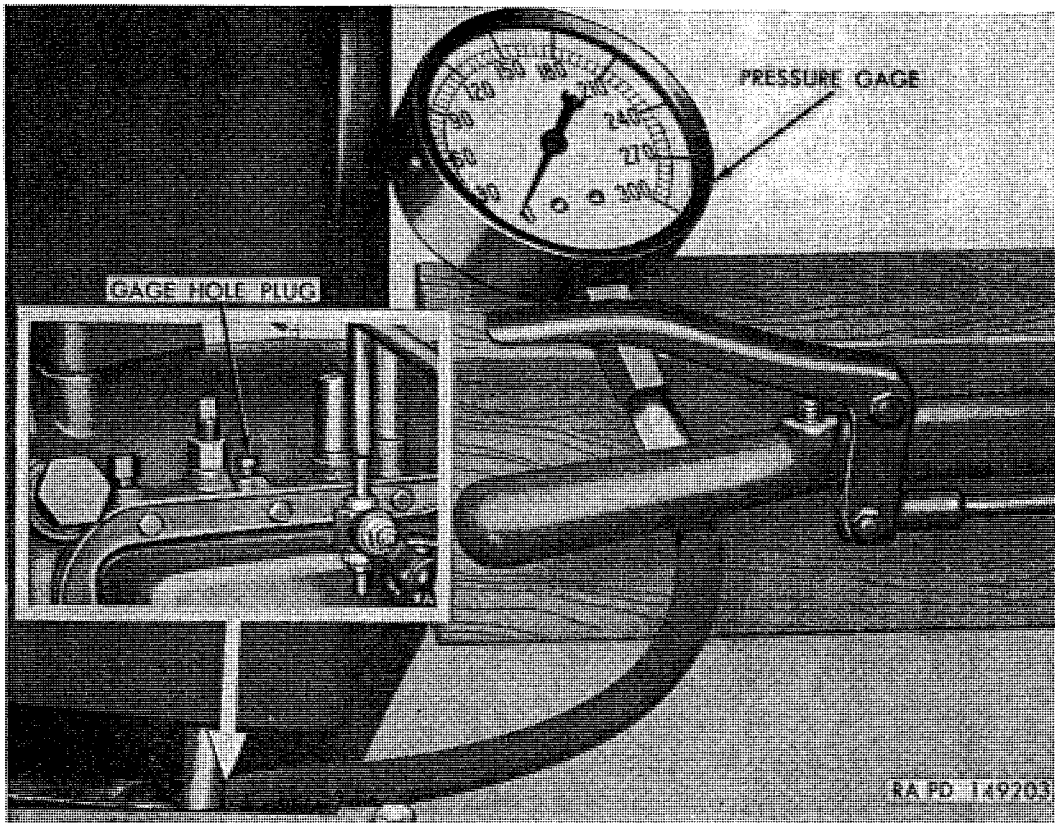
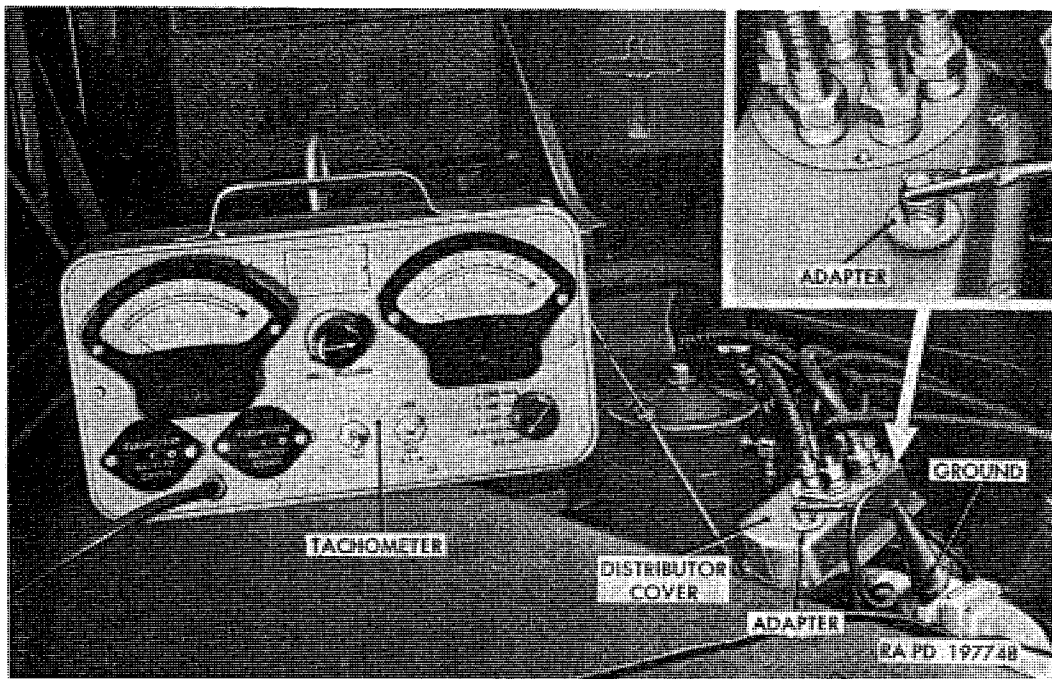

Figure 189. Use of gage B7950330 when making oil pressure test.
Figure 190. Using electric tachometer to check engine rpm.
- (1) Lift floor plate to gain access to pressure takeoff pipe plug, located on top of transmission case between front and rear band adjusting screws; then remove pressure takeoff pipe plug.
- (2) Install adapter of pressure checking gage B7950330 (fig. 189) in hole in transmission case from which pipe plug was removed, leaving gage seated on floor of truck cab.
- (3) Remove access screw from top of engine distributor cover; then thread adapter (fig. 190) into hole in cover from which access screw was removed.
- (4) Connect electric tachometer to adapter and ground (fig. 190).
- (5) Start engine and run for several minutes until engine and transmission are warmed to operating temperature.
- (6) With truck standing and with parking and foot brakes applied, accelerate engine to 1,000 rpm reading on tachometer.
- (7) Move transmission control lever into all four HIGH RANGE positions (N, F-1, F-2, and R), and into N (neutral) in LOW RANGE position.
- (8) With transmission oil warm, oil pressure should be 95 to 110 psi in all positions except reverse, and 180 to 220 psi in reverse.
- (9) Electric tachometer (fig. 190) and oil pressure checking gage B7950330 (fig. 189) should remain connected during road test (par. 199) and operating oil pressure test (b below).
b. Truck Moving Forward. Use electric tachometer and oil pressure checking gage B7950330 (fig. 189) during road test (par. 199) and take oil pressure reading after each upshift. Pressure will be less as instant shift is made but should return to original reading after shift is completed. If pressure loss or slippage is noted, check symptoms and causes in table VI.
c. Reduction Unit Oil Pump Pressure Test. During road test (par. 199), make reduction unit oil pump pressure test as in (1), (2), and (3) below.
- (1) With pressure checking gage B7950330 (fig. 189) installed, drive truck forward at speed of approximately 30 mph; then move transmission control lever into N (neutral) HIGH RANGE position.
- (2) Turn off ignition switch, and note reading on pressure checking gage with vehicle coasting. Pressure should be between 95 and 110 psi.
- (3) If pressure is lower than 95 psi, probable cause is faulty reduction unit oil pump. Notify ordnance maintenance personnel.